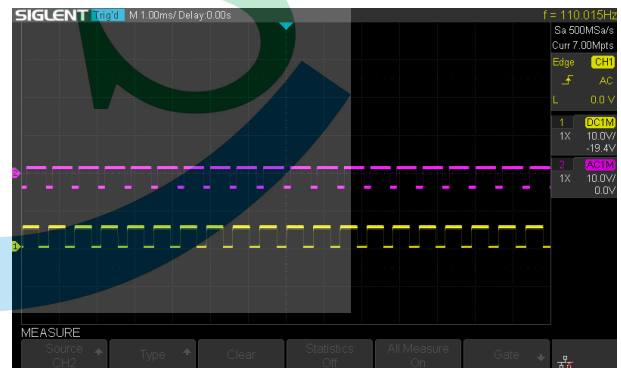

Figure 9 – “Normal” pulse trains
6. Two pulse trains of equal heights and widths (Figure 9):